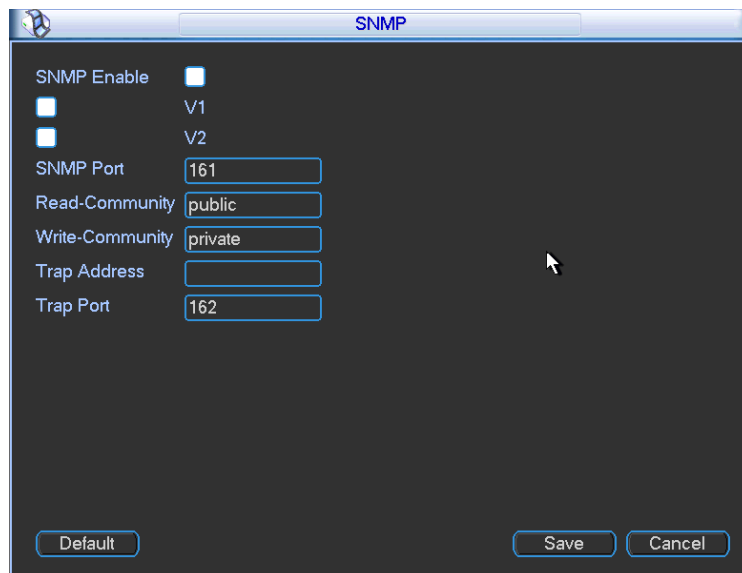

Figure 5-33
You can set in the following interface. See Figure 5-33.
- In Figure 5-33, check the box to enable the SNMP function. Input the IP address of the PC than is running the software in the Trap address. You can use default setup for the rest items.